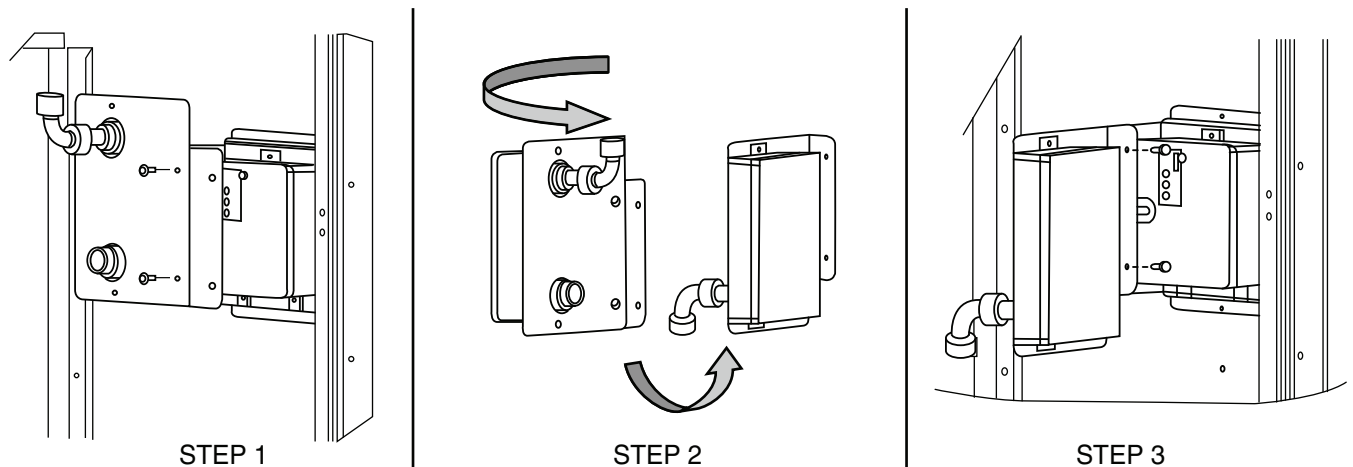

Fig. 98 — Completing Installation of Return Air Smoke Sensor
1. Unscrew the two screws holding the Return Air Smoke Detector assembly. See Fig. 98, Step 1. Save the screws.
2. Turn the assembly 90 and then rotate end to end. Make sure that the elbow fitting is pointing down. See Fig. 98, Step 2.
3. Screw the sensor and detector plate into its operating position using screws from Step 1. See Fig. 98, Step 3.